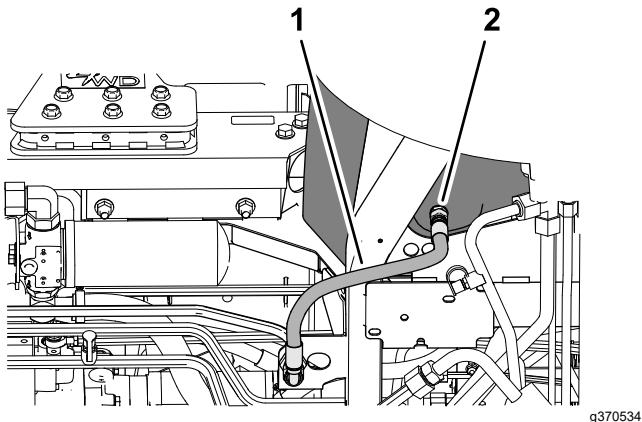

Figure 165
3. Align the drain pan under the hydraulic tank (Figure 165).